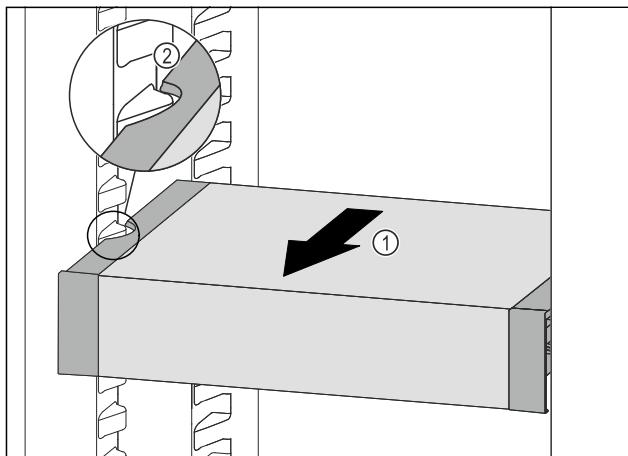

Fig. 107
- ▶ Pull VarioSafe forward Fig. 107 (1) until the recesses in the side of the VarioSafe are at the level of the support rib in the refrigerator compartment. Fig. 107 (2)